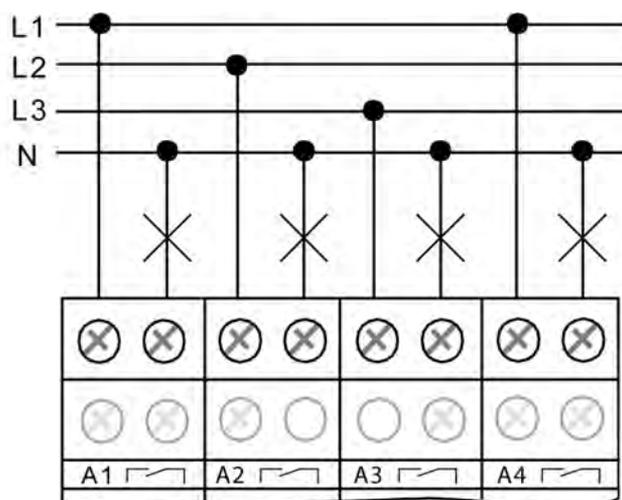

Figure 4: Electrical connection for loads in switching operation
- Connect the loads as shown in the wiring example (figure 4)